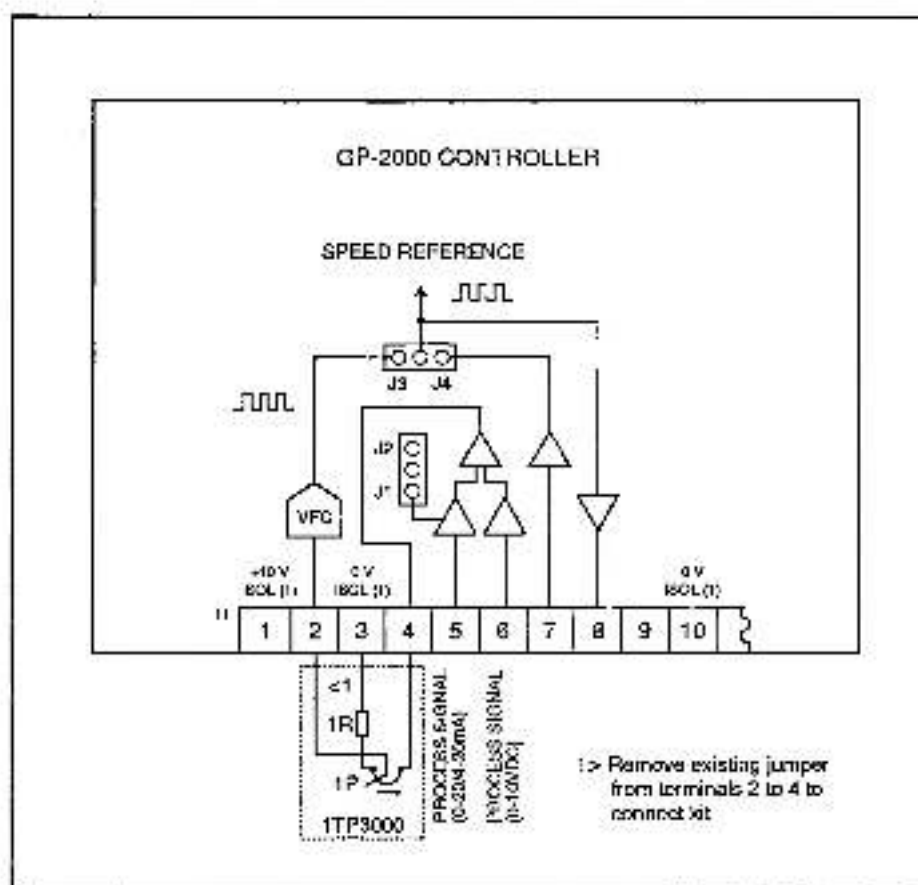

Figure 3. Kit Wiring.
5. Wire the process control signal to the controller. Refer to Figure 3.